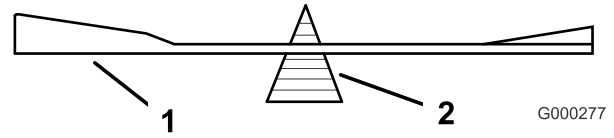
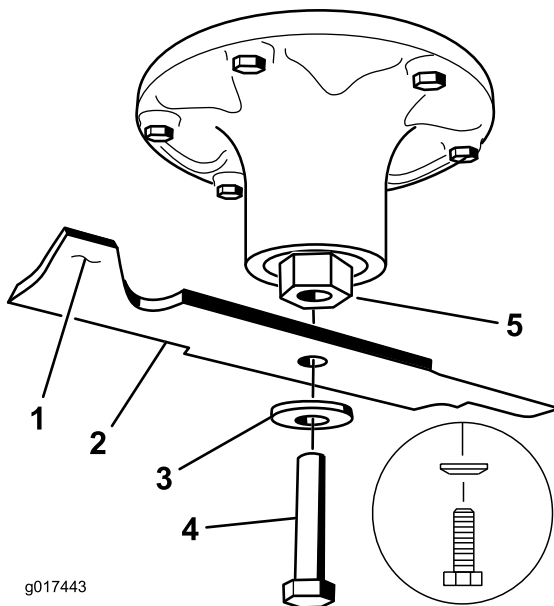

Figure 78
Figure 79
2. Check the balance of the blade by putting it on a blade balancer (Figure 78). If the blade stays in a horizontal position, the blade is balanced and can be used. If the blade is not balanced, file some metal off the end of the sail area only (Figure 79). Repeat this procedure until the blade is balanced.
2. Install the blade, spring disk and blade bolt. The spring disk cone must be installed toward the bolt head (Figure 79). Torque the blade bolt to 85-110 ft-lb (115-150 N-m).